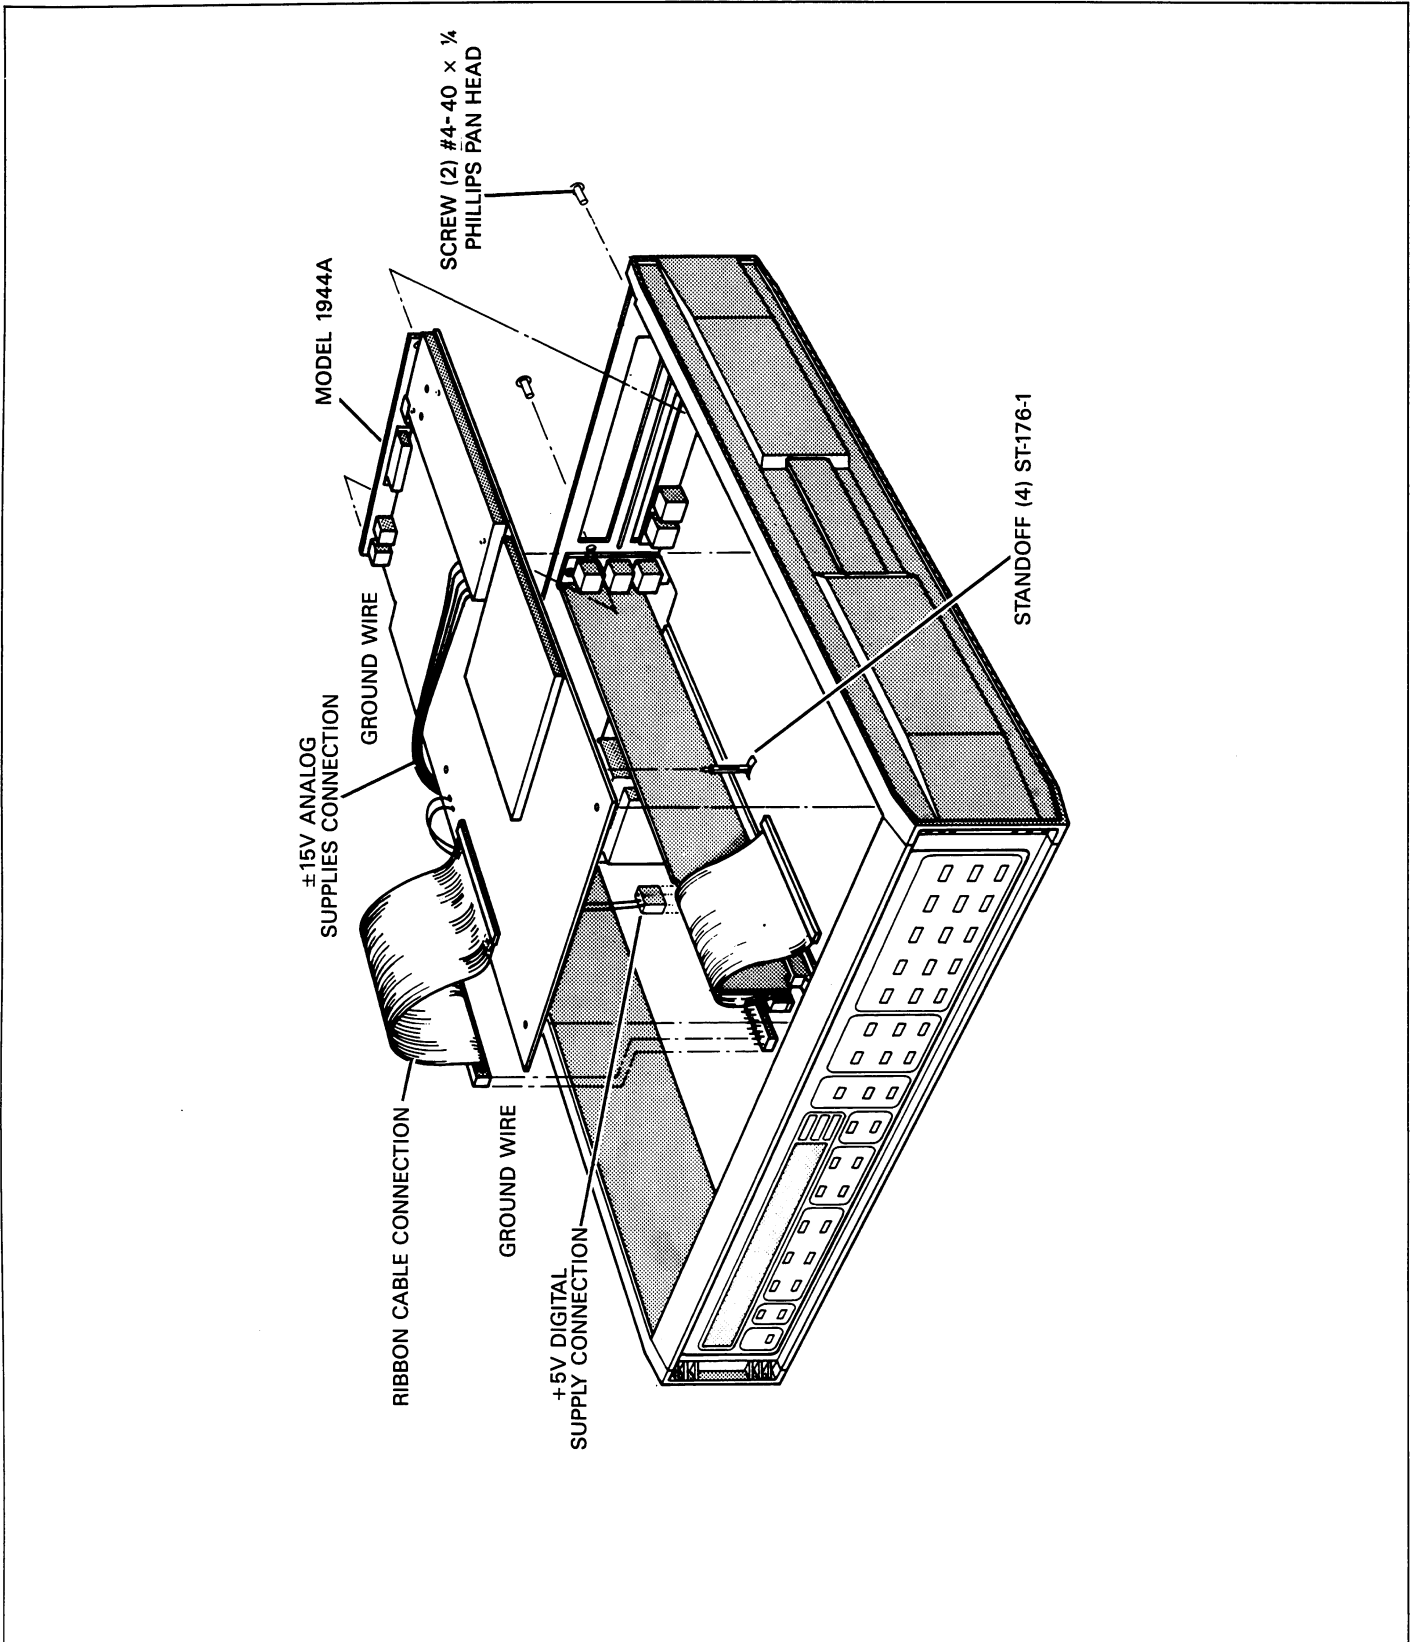

Figure 7-2. Model 1944A A/D Module Installation
Refer to Figure 7-2 and install the Model 1944A as follows.
3. Install the four plastic standoffs supplied with the module in the holes at the edges of the channel 1 A/D module, as shown in Figure 7-2.
5. Plug the +15V and -15V supply connector to J1021 or J1022 (whichever one is presently unused) on the mother board, as shown in Figure 7-2. Line up the plug in the connector with the missing pin on the mother board. Route the cable through the top hole in the I/O board.